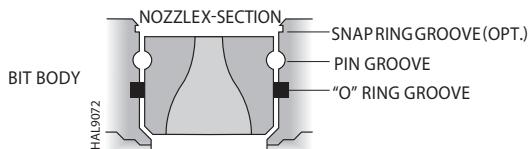

FIGURE 1
**3** Replace the O-ring if necessary. Feel for any foreign objects in the O-ring groove. The proper size O-ring should fit snugly on the OD of the nozzle. Using fingers only, insert the O-ring into its groove, ensuring that it isn't mistakenly placed in the pin groove (figure 1 below).